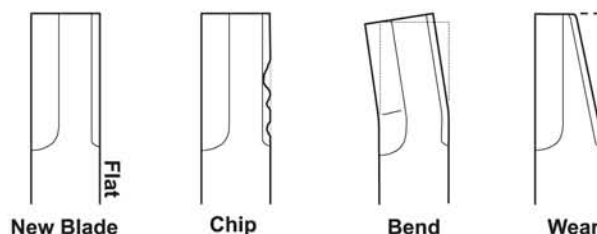
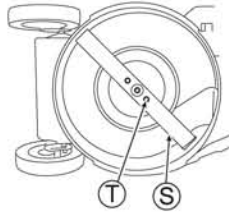

Fig. 33
Fig. 34
1. Confirm that there is no chip, bend, or wear with Blade (S). (See Fig. 33)
2. If Blade (S) or its mounting bolts (T) are "worn", "broken" or "deformed", exchange with new one(s) specified by us.
3. Confirm that Blade mounting bolts (T) are tightened by the specified torque. (See Fig. 34)
2. Fully tighten Blade mounting bolts (T) with hand.
4. Confirm that Blade mounting bolts (T) are tightened by the specified torque. (See Fig. 34)